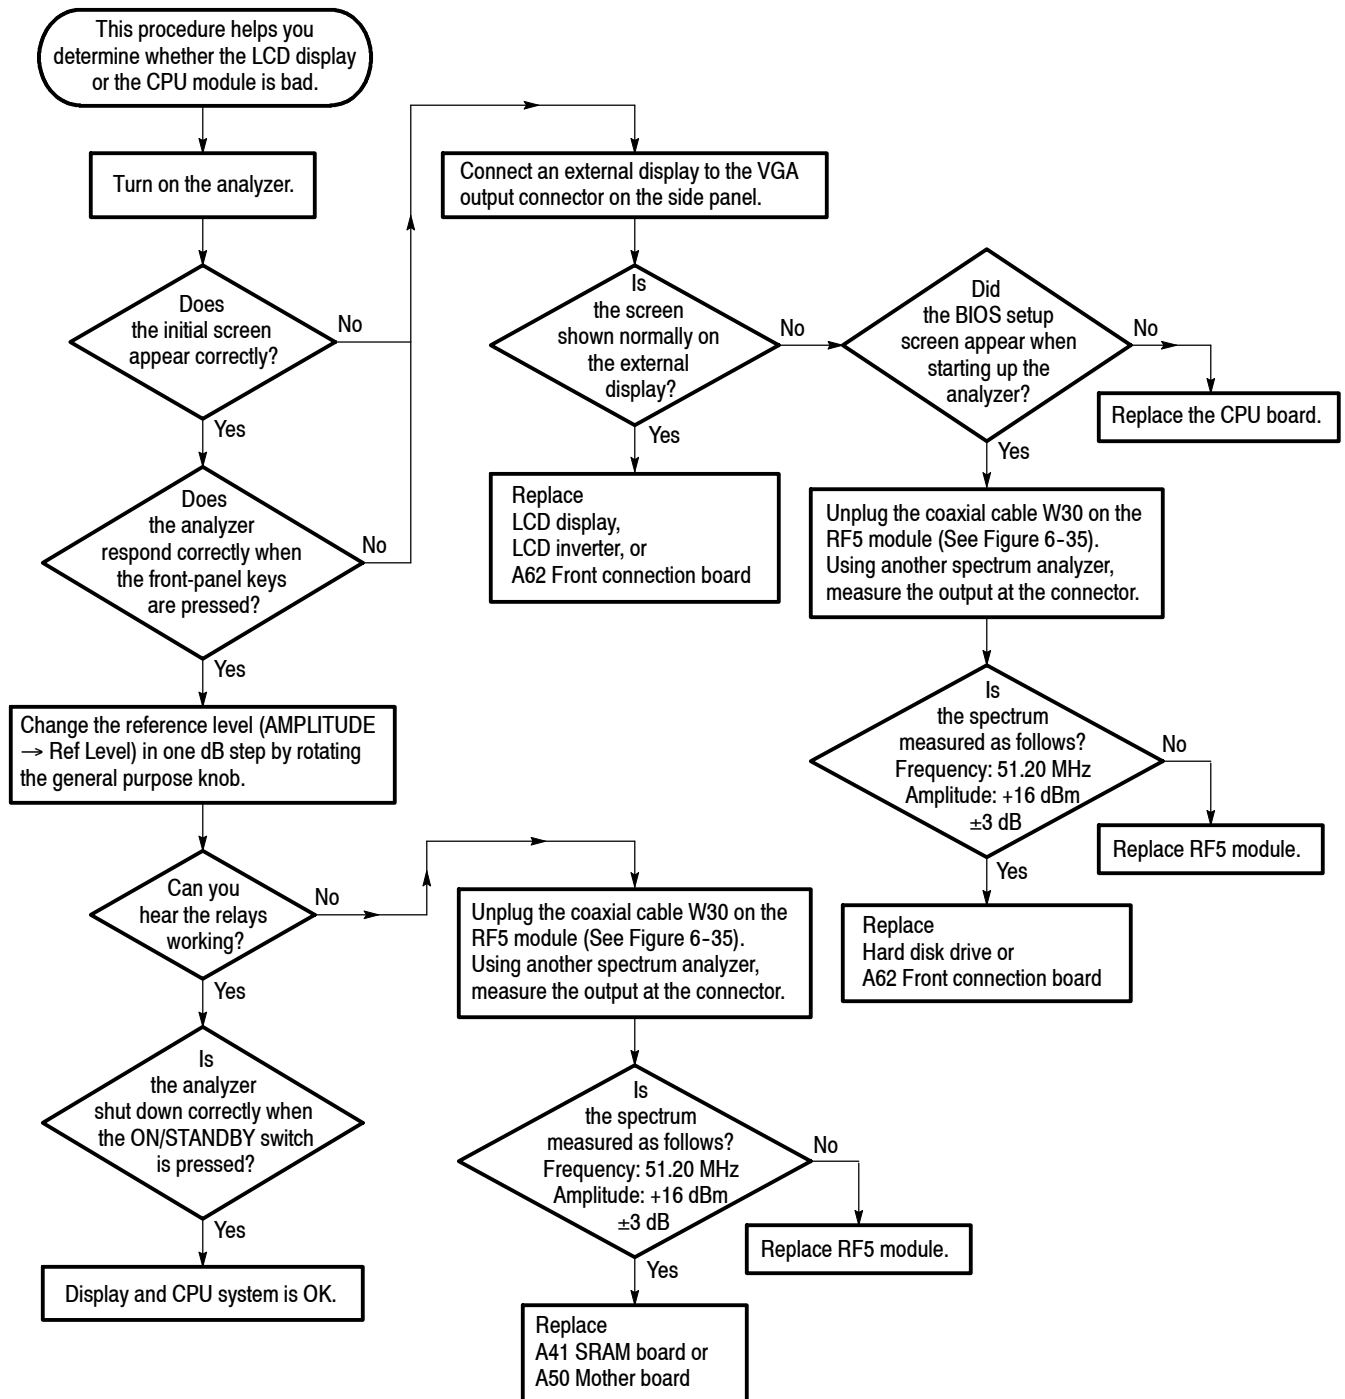

Figure 6-33: Troubleshooting procedure 2 — Display and CPU system
- Figure 6-33: Troubleshooting Procedure 2 — CPU and Display system